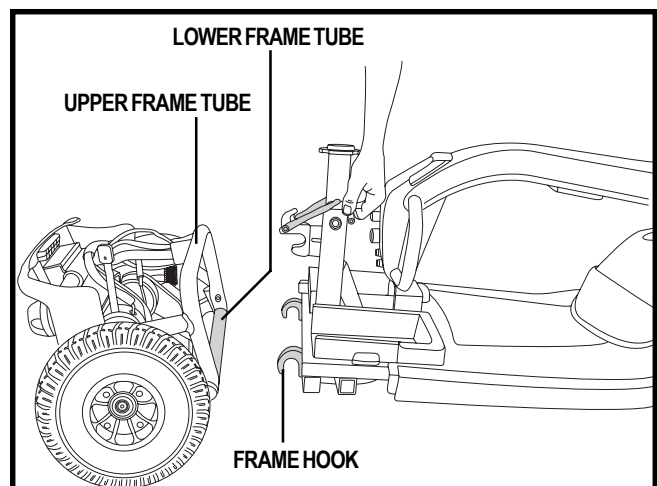

Figure 24. Frame Separation
1. Position the front and rear sections of your scooter as shown in figure 24.
2. Use the frame release lever to lift the front section as you align the frame hooks of the front section with the lower frame tube of the rear section. See figure 24.